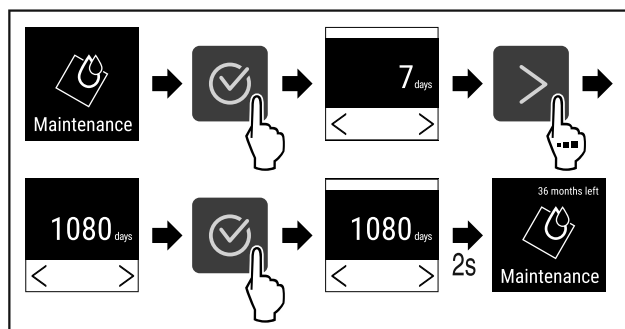

Fig. 78
- ▶ Complete steps (see Fig. 78).